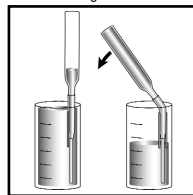

Figure 4
7. Place the VACUette in the dilutor snapper cup and snap the tip (fig 4). The ampoule will fill leaving a bubble to facilitate mixing.